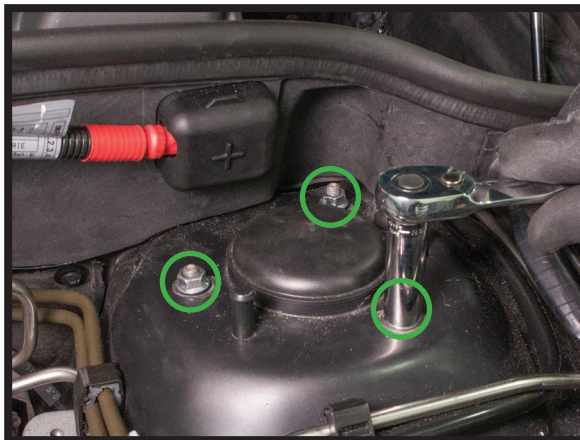

FIGURE 3
6. OPEN THE HOOD AND REMOVE THE THREE (3) UPPER MOUNT NUTS. (FIGURE 3)